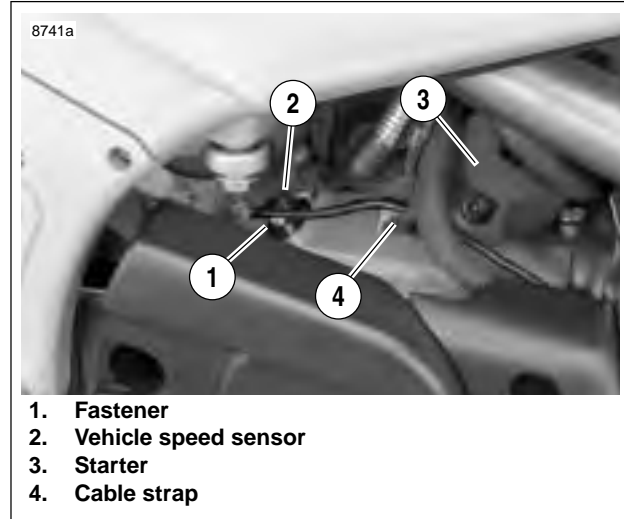

Figure 7-54. Speedometer Sensor
1. See Figure 7-54. Remove fastener (1) to detach vehicle speed sensor (2) from crankcase.
2. Remove cable strap (4).
1. See Figure 7-54. Install fastener (1) to attach vehicle speed sensor (2) to crankcase.
3. Install cable strap (4).